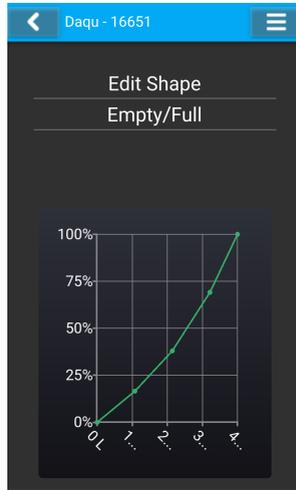

Figure 29: Shape of the calibrated tank.
13. Go one page back - return to the initial tank page. Now you shall see the shape of the tank. Observe the non-linear shape of the tank curve, Figure 29.